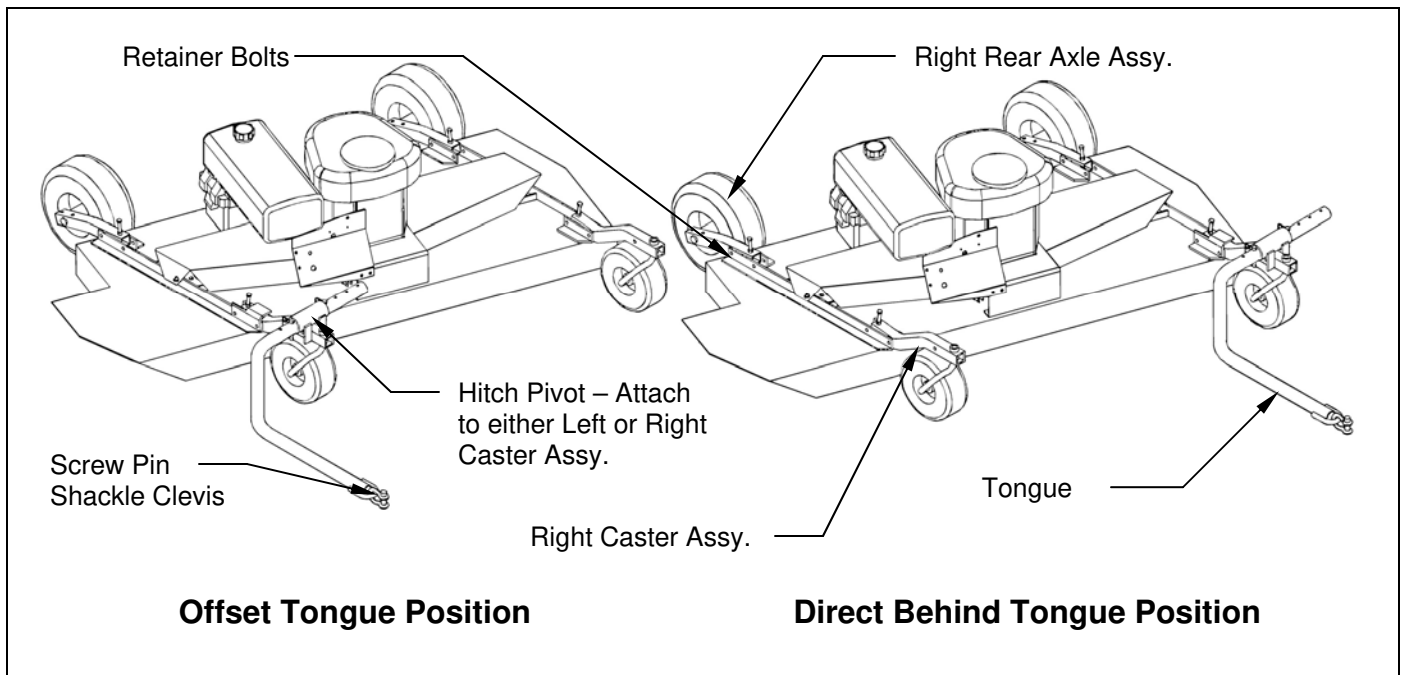
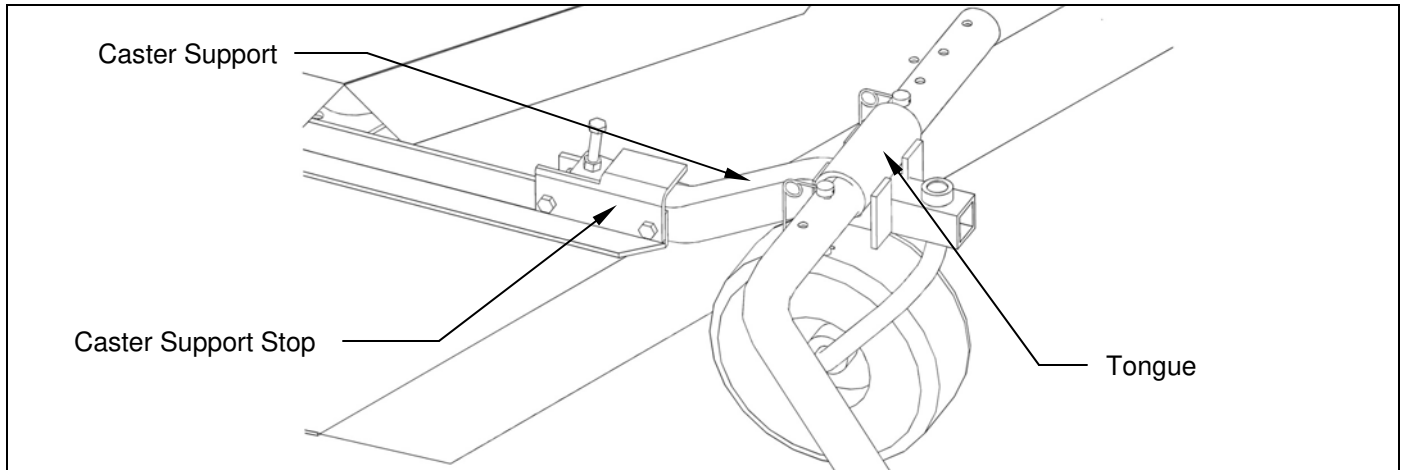

Figure 1. Assembly of Mower Wheels and ATV Tongue
Figure 2: Installation of Caster Support Stop
2. Install the two caster assemblies in the retainers on the front of the mower deck. **See figure 1.** Before securing the caster supports, determine which side of the mower the tongue will be placed on and install the caster support stop on the tongue side. **See Figure 2.** Secure with 3/8" x 2-3/4" hex head bolt, lock washer, and nut provided in the retainer areas. Secure remaining caster support with 3/8" x 2-1/2" hex head bolt, lock washer, and nut provided in the retainer areas.
3. Install the two rear axle assemblies in the retainers on the rear of the mower deck. The tire should be to the left of the axle support. **See figure 1.** Secure with 3/8" x 2-1/2" hex head bolt, lock washer, and nut provided in the retainer areas.
1. The tongue can be installed either on the left or right caster assembly depending on how the wing mower will be towed. **See figure 1.** Secure the hitch pivot on the chosen caster assembly with the 3/8" x 2-1/2" hex head bolt, lock washer, and nut provided.
Note: When pulling the wing mower directly behind, it is most maneuverable when the hitch pivot is fastened on the left carrier arm. **See Figure 1.** When pulling the wing mower in the offset position, it is most maneuverable to have the hitch pivot fastened on the right carrier arm. **See Figure 1.**